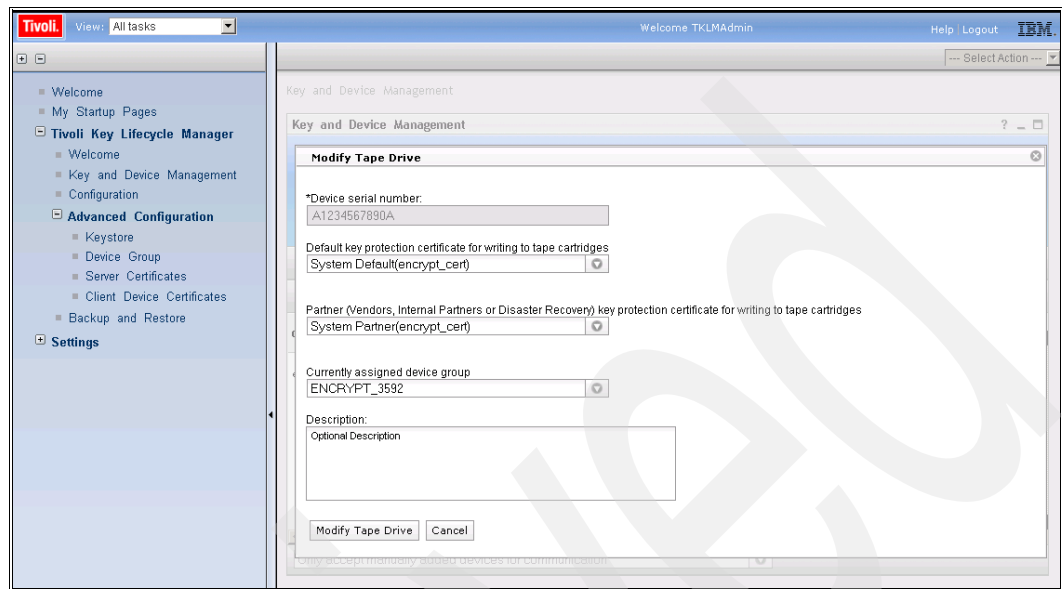

Figure 9-39 Modify tape drive
4. Select a different device group in the **Currently assigned device group** field for the selected tape drive. Click **Modify** to execute this change; click **Cancel** to deny it (Figure 9-39).